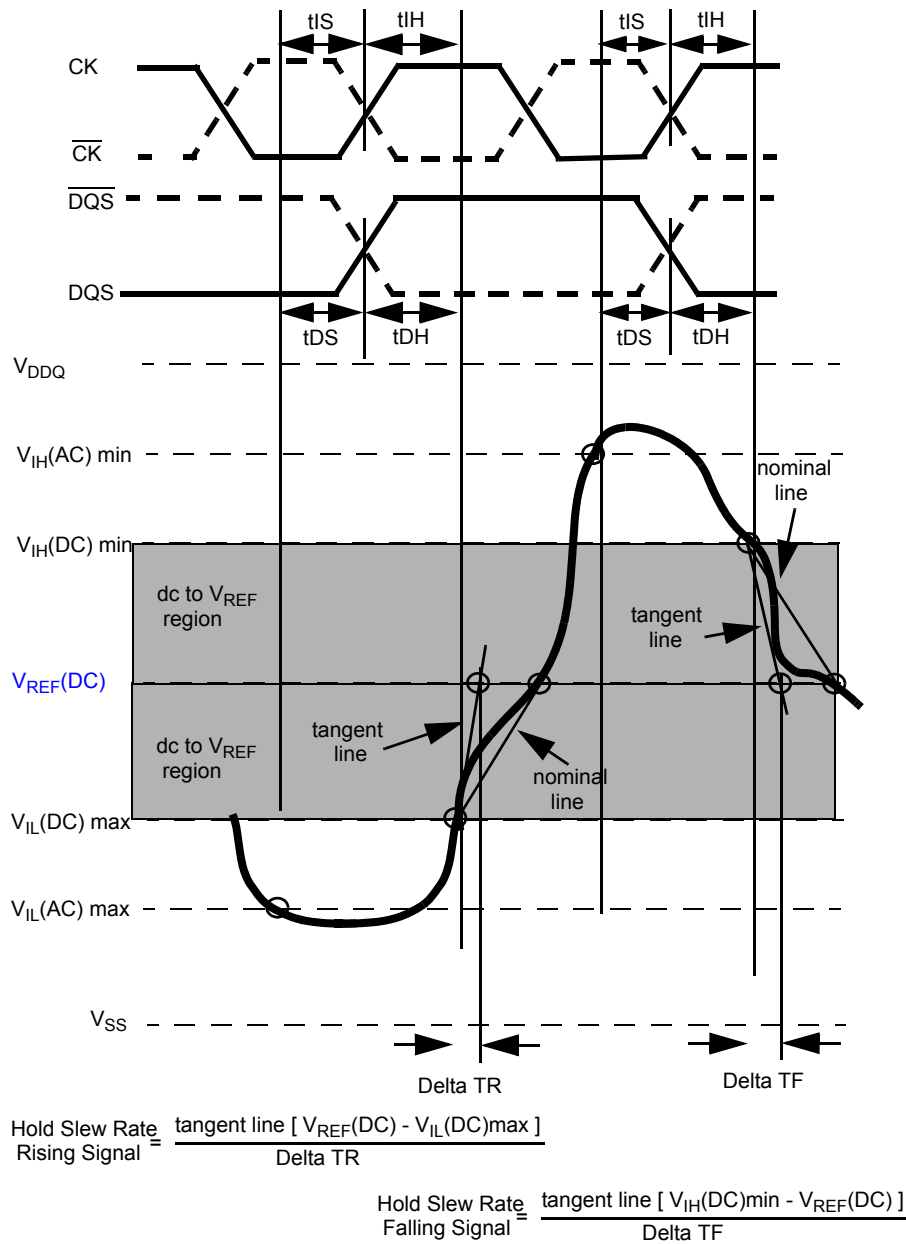

Figure 24 - Illustration of tangent line for hold time t_{DH} (for DQ with respect to strobe) and t_{IH} (for ADD/CMD with respect to clock)
Hold (tIH) nominal slew rate for a falling signal is defined as the slew rate between the last crossing of V_{IH}(DC)min and the first crossing of V_{REF}(DC). If the actual signal is always later than the nominal slew rate line between shaded 'dc to V_{REF}(DC) region', use nominal slew rate for derating value (see Figure 24). If the actual signal is earlier than the nominal slew rate line anywhere between shaded 'dc to V_{REF}(DC) region', the slew rate of a tangent line to the actual signal from the dc level to V_{REF}(DC) level is used for derating value (see Figure 26).